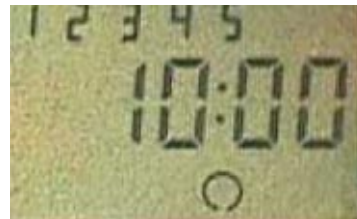

Fig. 6
- Press the Select button until the (off) symbol is shown (see fig. 6).